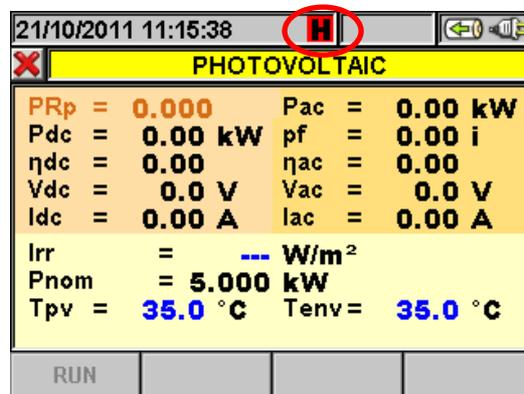

Fig. 4: HOLD function active at display
- ✓ **HOLD:** to block the value updating in all real time screens and also during a recording operation. "H" symbol is shown at display by any pressing of key as for Fig. 4:
1. Using the PT400 pointer pen or another object softly pressing the internal part of the little hole which is present on the lateral side of meter (see Fig. 3 – Fig. 4). The meter goes automatically off.